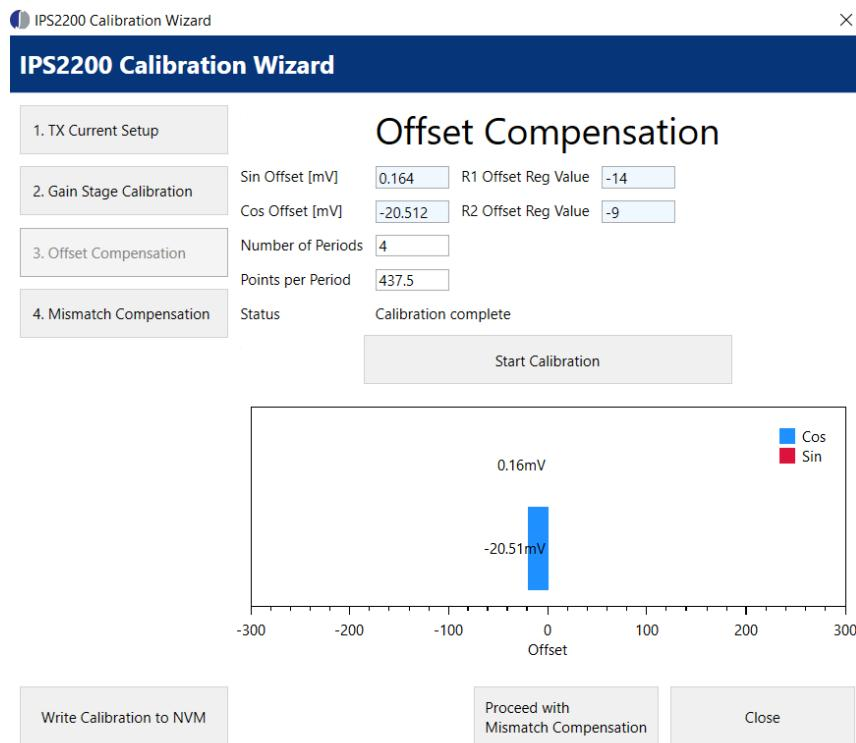

Figure 20. "Offset Compensation" Window
- Write: applies the changes displayed on the GUI to the corresponding memory location on the IPS2200. If a value is changed on the GUI, the font color changes to red (see Figure 20) indicating that it is not applied to the actual memory (NVM/SRB/SFR) of the IC.